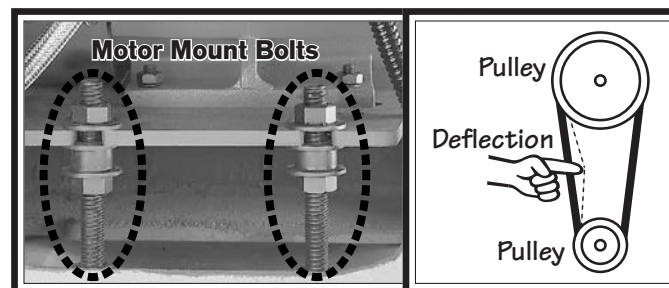

Figure 125. V-belt adjustment.
3. Adjust the hex nuts on the motor mount bolts shown in **Figure 125** to move the motor mount plate up or down and adjust the V-belt tension. When correctly tensioned, each belt should have about $\frac{3}{4}$ " deflection when pressed firmly (see **Figure 125**).